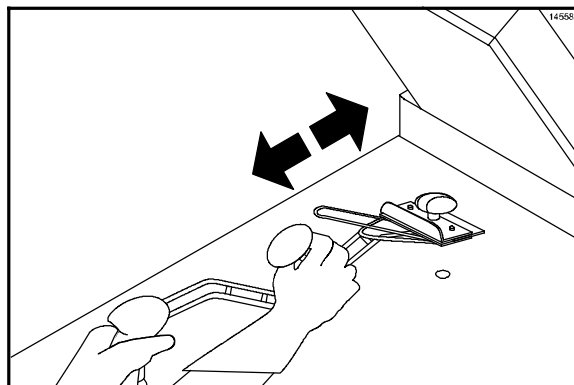

Figure 18
9. Scrape the **lower** grill surface with the grill scraper, in a front to back direction. (See Figure 18.)